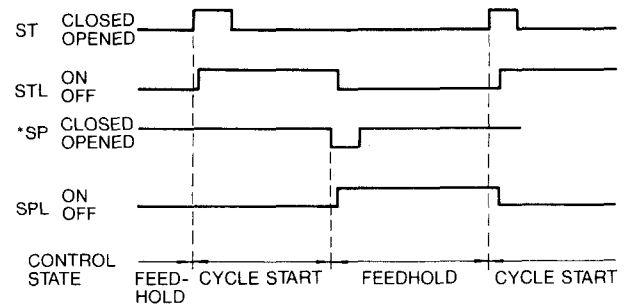

Fig. 19.1
- (2) When the following state is entered after cycle start, the control completes operation control, and turns off the STL output.
- (3) When the feedhold input contact “*SP” is opened during automatic operation, the automatically controlled motions, etc. are interrupted, and at the same time the cycle start output STL is turned OFF and the feedhold output SPL is turned ON. While a block of thread cutting instruction is being executed, the feedhold input is neglected, unless the control is equipped with Thread Interruption function.
- (4) When the feedhold input contact *SP is closed, and cycle start input contact ST is closed, temporary stop SPL is turned OFF, and automatic operation is restarted. The cycle start output STL is turned ON also.
Timing chart for input of cycle start (ST), feedhold (*SP), and cycle start (STL) and temporary stop (SPL) is shown in Fig. 19.1.